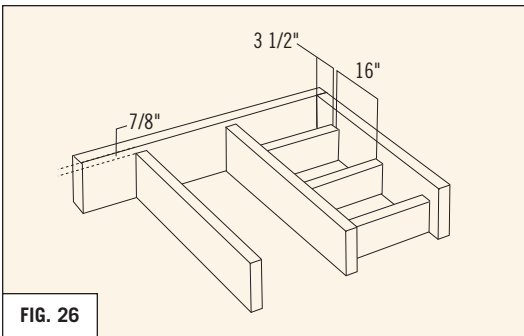

FIG. 26
- Add bracing and 2" x 4" lumber to the deck where the bullnose runs parallel to the joists. For dimensions REFER TO FIG. 26, 27, 28. The 2" x 4" must be level with the inner joists, and 7/8" lower than the outer joist.